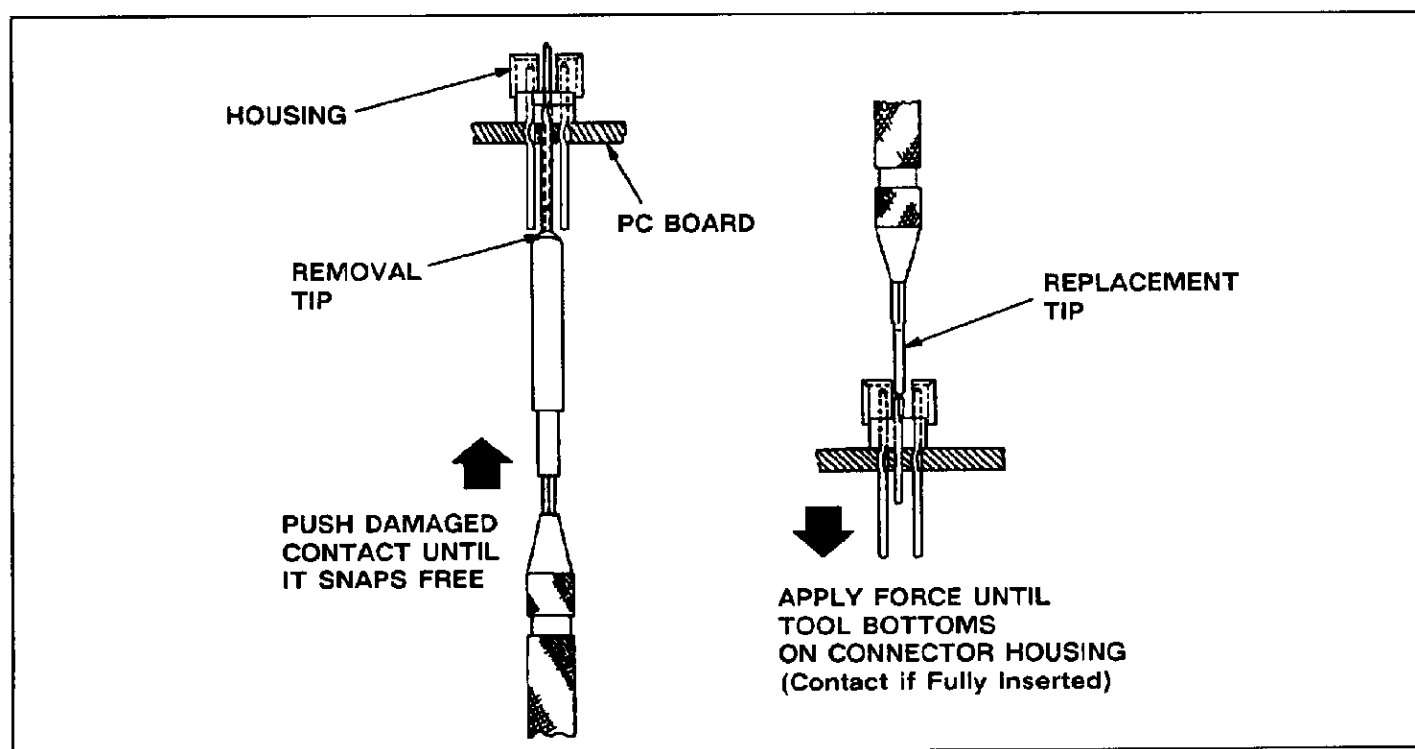

Fig. 8
7. AMP-HDI, EUROCARD, AND AMPMODU CONTACT REPLACEMENT (Figure 8)